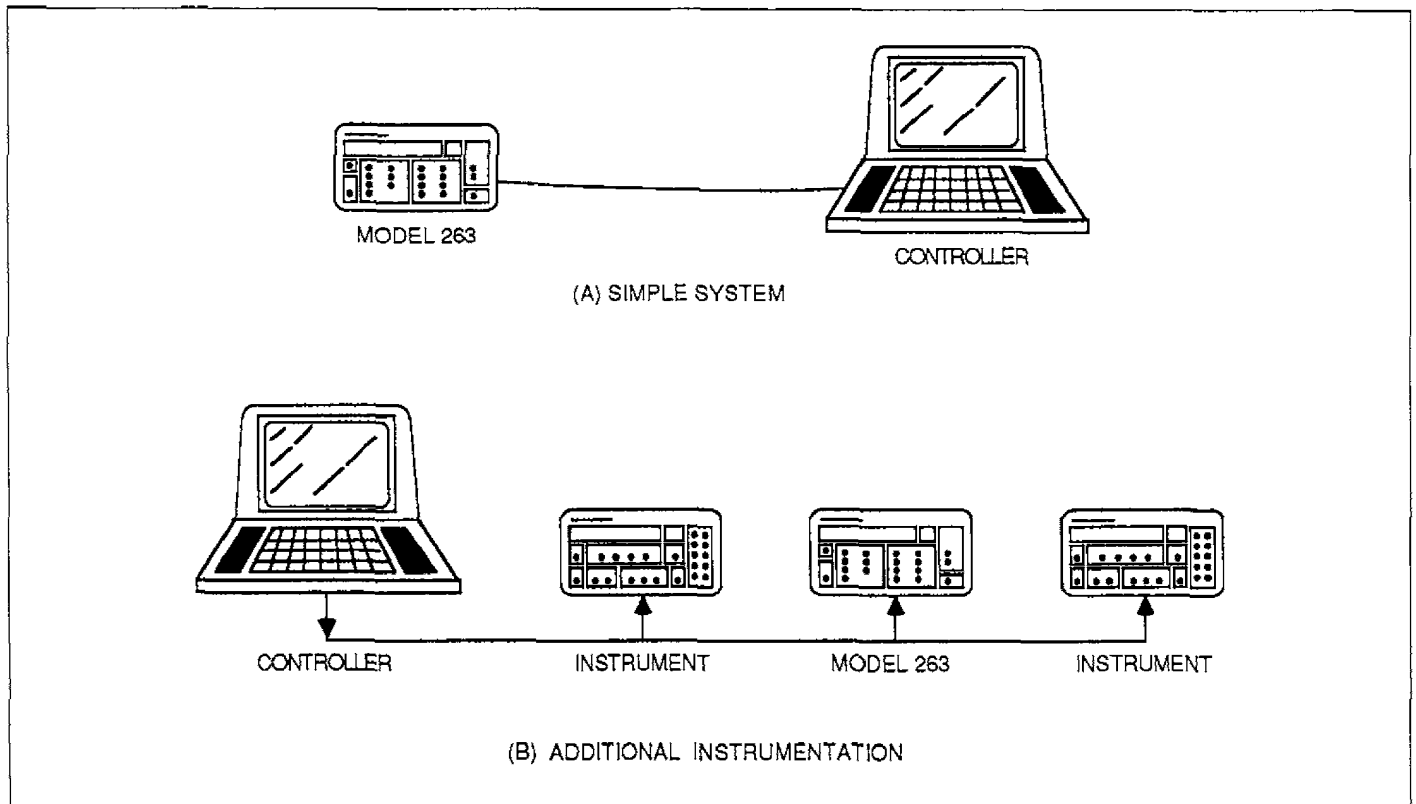

Figure 4-1. System Types
Figure 4-1 shows two possible system configurations. Figure 4-1(A) shows the simplest possible controlled system. The controller is used to send commands to the instrument, which sends data back to the controller.
The system in Figure 4-1(B) is somewhat more complex in